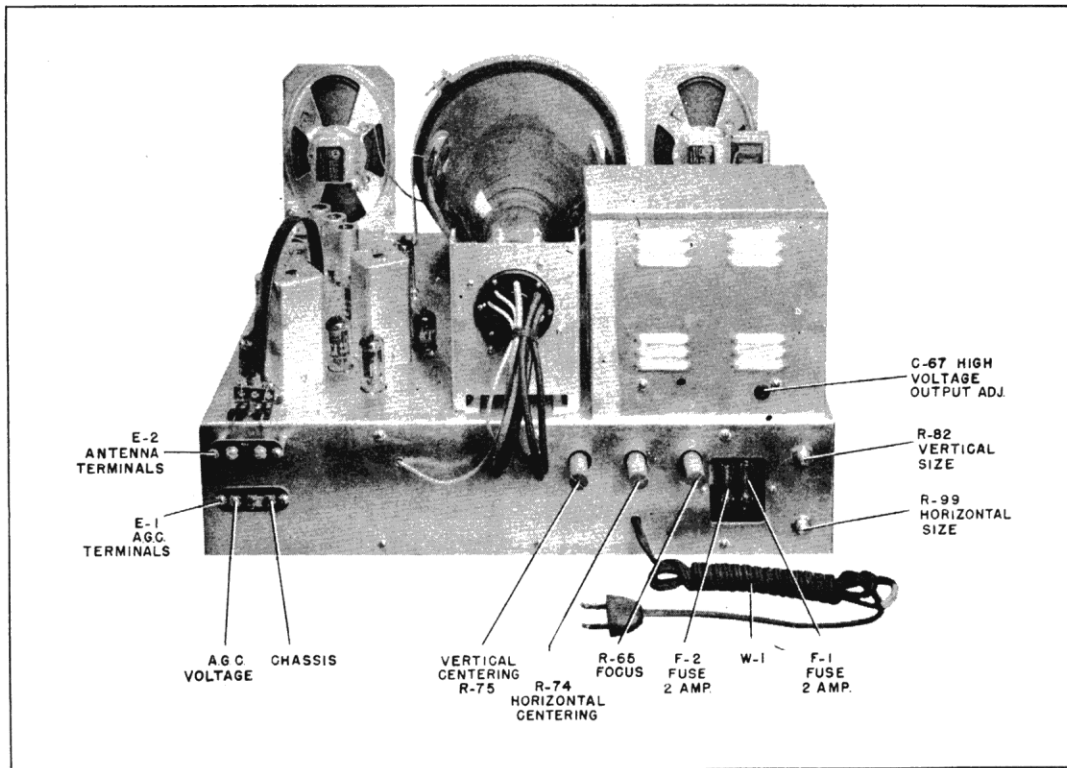

Figure No. 2. Rear View of Receiver (cabinet removed)
6. Connect the link on the A.G.C. terminal board between the center and right-hand (chassis) terminals to remove A.G.C. from the R.F. tube. See Figure No. 2.